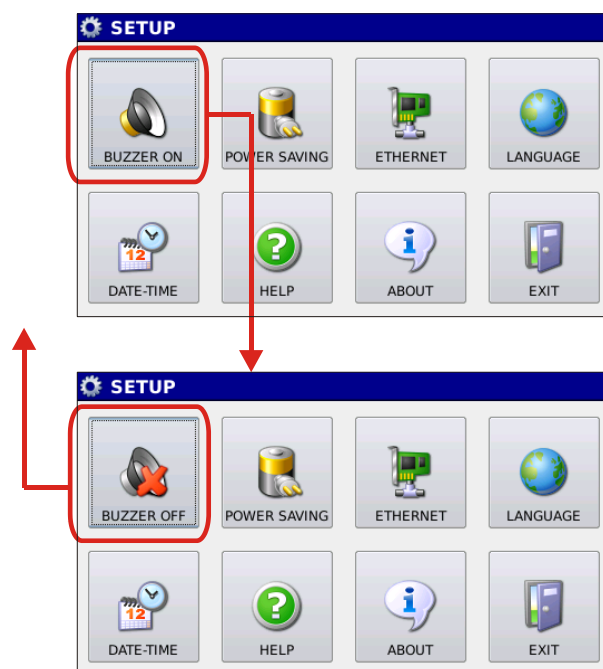

Fig. 6.2: activating/deactivating acoustic signals through Buzzer key
6.1 BUZZER ON: Activating acoustic signals. When the program starts, the Buzzer is active and each press of a button is indicated by a sound; in order to disable this function, it is necessary to press the BUZZER key, so to change its status (Fig. 6.2).